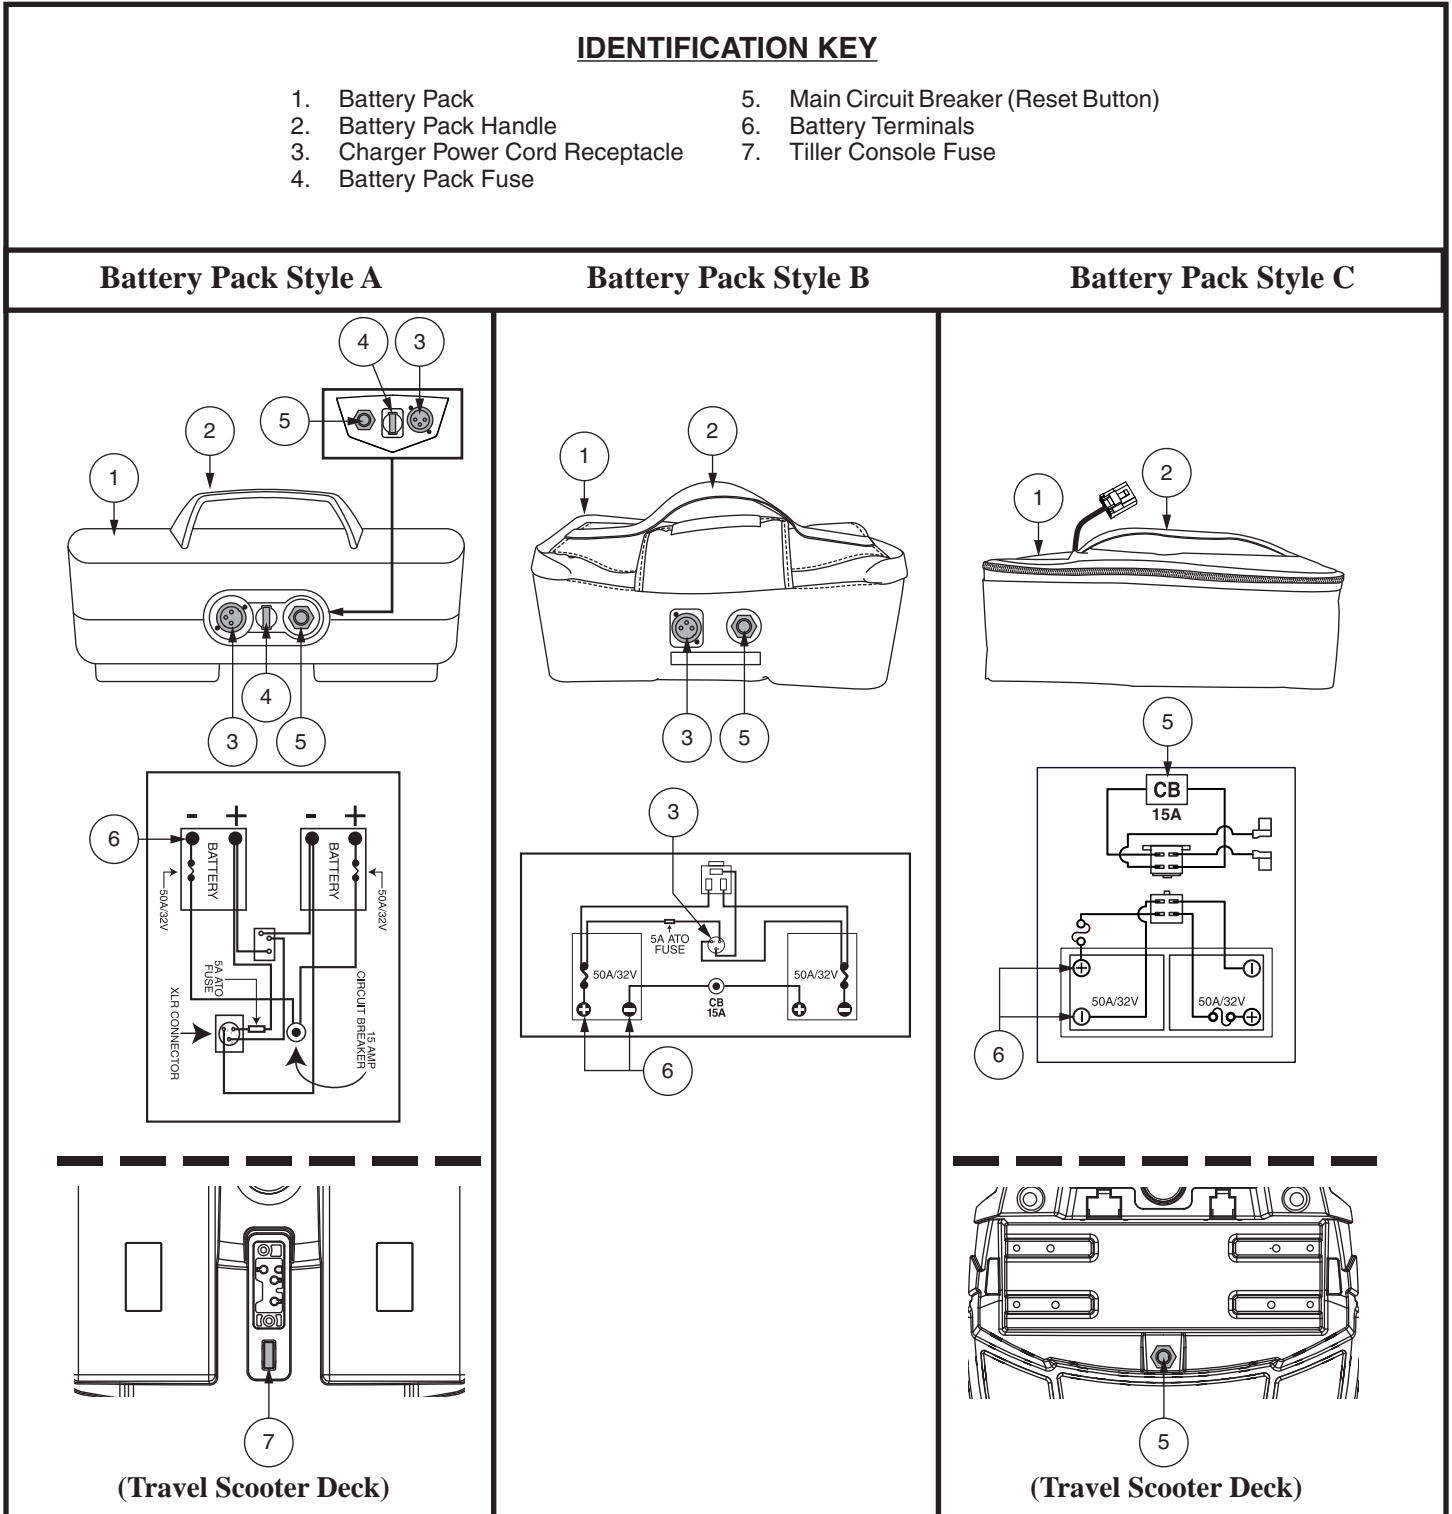

Figure 6. Battery Pack
When the voltage in your Travel Scooter's batteries becomes low or the Travel Scooter is heavily strained because of excessive loads or steep inclines, the main circuit breaker may trip to protect the motor and electronics from damage. **See figure 6.**
Your Travel Scooter is equipped with an innovative, easy-to-remove battery pack. A handle on the top of the battery pack makes it easy to lift the pack off of the Travel Scooter with one hand. The battery pack contains two rechargeable batteries, and may contain the charger power cord receptacle, the main circuit breaker (reset button), and the battery pack fuse. See figure 6.
The fuse located under the battery pack protects the tiller console electronics. See figure 6. In the event any component of the tiller console is not responding, check this fuse. See VII. “Basic Troubleshooting” for fuse replacement instructions.
- Ensure that the fuse on the battery pack is in working condition. See figure 6.